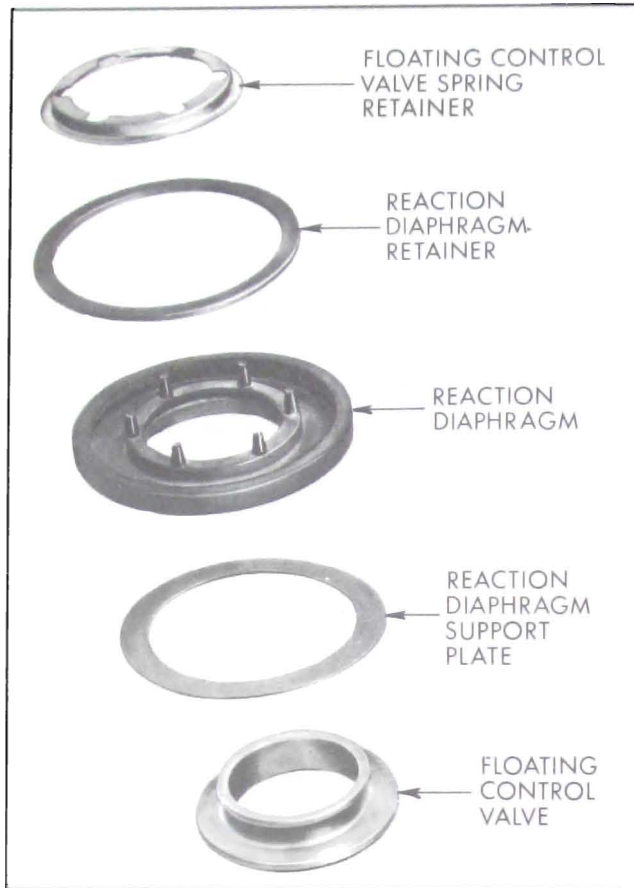

Figure 9-22—Floating Control Valve and Diaphragm Assembly
13. From floating control valve and diaphragm assembly (Figure 9-19), remove floating control valve spring retainer. Remove reaction diaphragm retainer from under lip of reaction diaphragm, then remove reaction diaphragm and support plate from hub of floating control valve. See Figure 9-22.
4. To assemble floating control valve and diaphragm assembly, place reaction diaphragm support plate over hub of floating control valve. See Figure 9-22. Assemble reaction diaphragm over hub of floating control valve flat side first so that hub flange fits into groove in I.D. of diaphragm. Insert reaction diaphragm retainer under lip of reaction diaphragm. Firmly press floating control valve spring retainer on center of reaction diaphragm so that retainer fits over six small rubber bumpers.